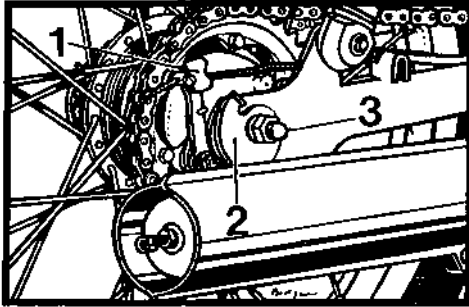

Fig. 16 -- Rear brake and engine chain slack adjustment
When it is no more possible to adjust the brakes by means of the adjusting screws on handlebars, adjust the tension of the brake bowden cables on brake cams [1] (Fig. 15 and Fig. 16), and then correct the adjustment using the adjusting screws on the handlebars.
Adjust the engine chain slack after loosening the rear wheel spindle nut (3, Fig. 16). By tightening the chain tensioner nuts (2) on both sides of the frame tension the chain so that it sags 15 mm under thumb pressure. After having adjusted the chain slack, it is necessary to check the track of the wheels (alignment of wheels) using a straight lath. Do not forget to retighten the wheel spindle nut.